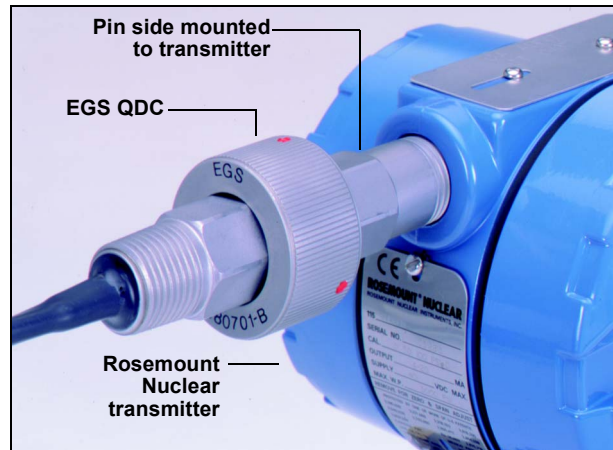

FIGURE 2. Side-mounted QDC (typical of Model 1152 and 1153 Series B Transmitters)
b. Standard mounting per Figure 2. Specify if opposite mounting is required.